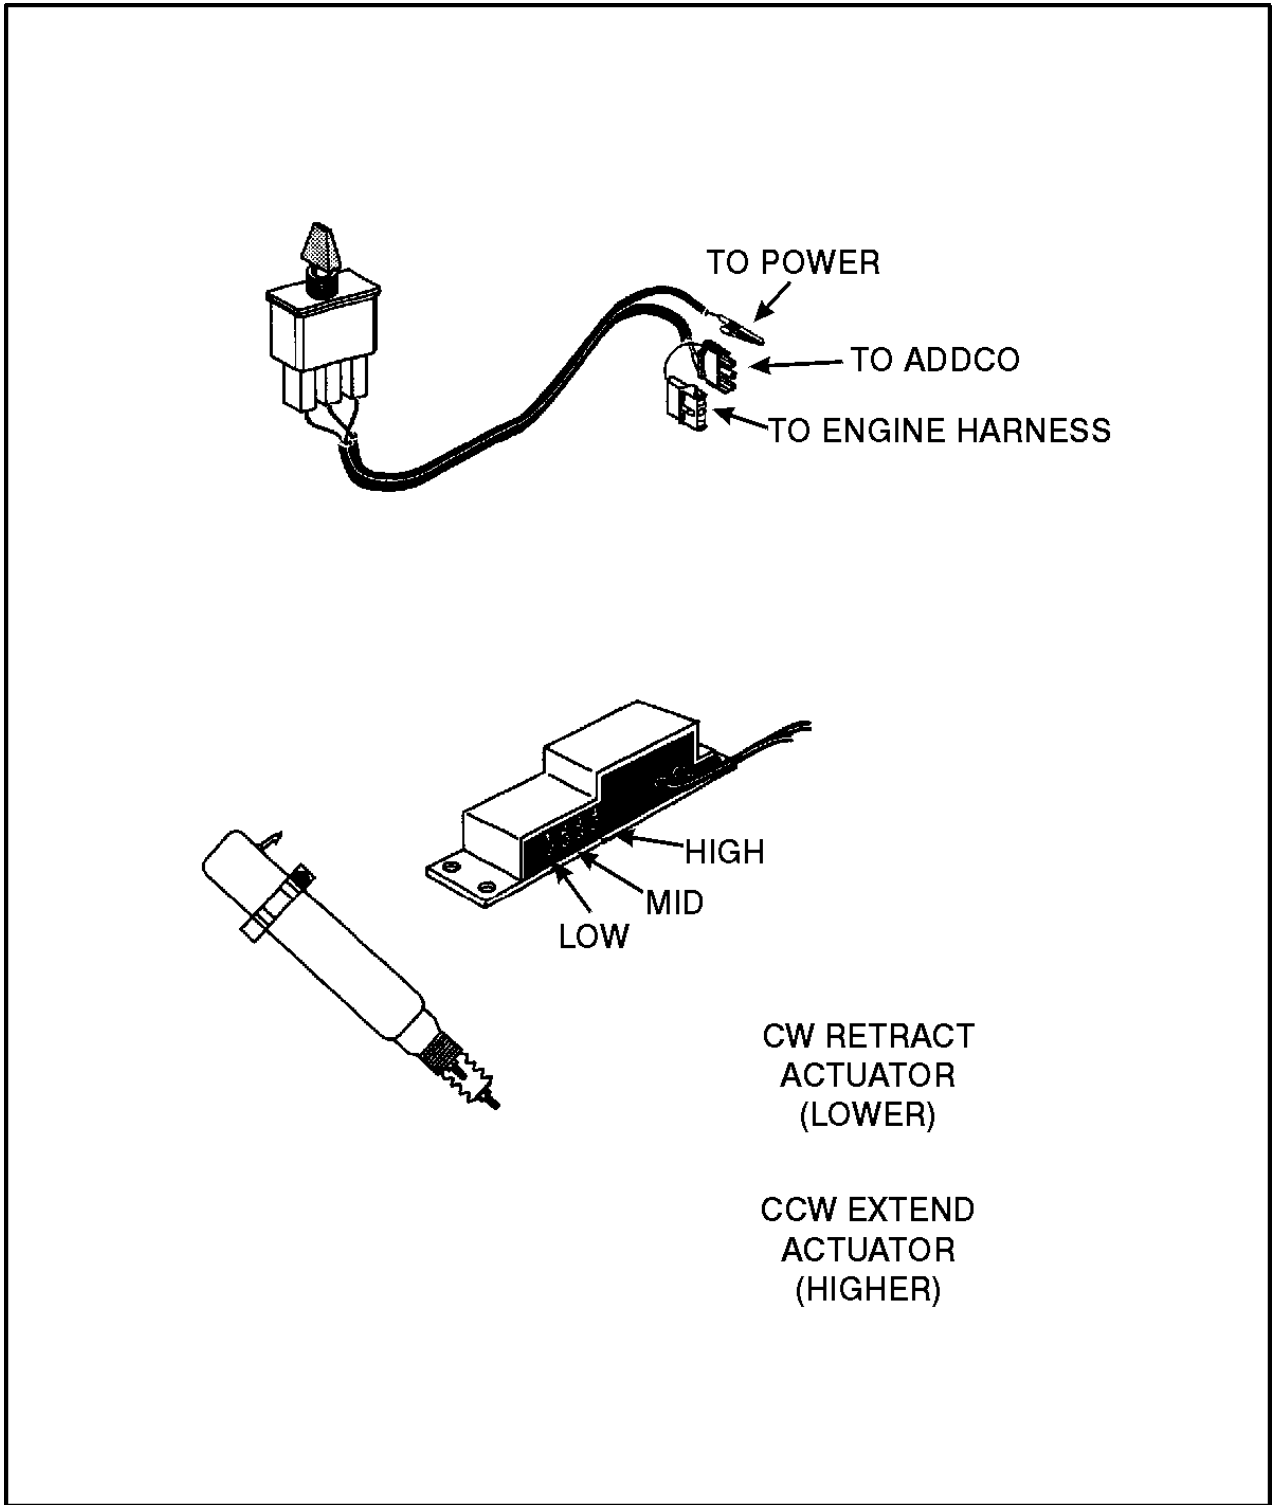

Figure 2-21. ADDCO Adjustments (Gasoline/Dual Fuel Engine)
2. Disconnect the wire harness from the ADDCO throttle and install JLG wire harness #4921850 to the ADDCO and the engine harness, See Figure 2-21., ADDCO Adjustments (Gasoline/Dual Fuel Engine). Start the engine and allow it to come up to operating temperature. Adjust the IDLE #1 engine pot on the ADDCO CW to retract the actuator (lower) or CCW to extend the actuator (higher) until IDLE engine runs at 1500 RPM.